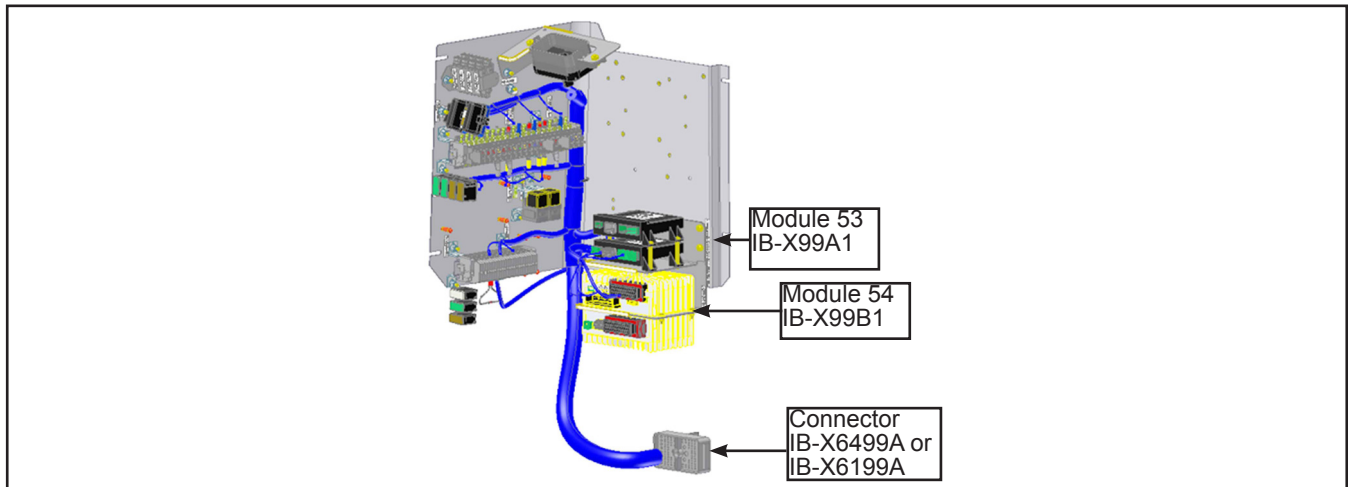

Figure 22 - IB Compartment
**Connector IB-X6499A. Pinning wires (see Figure 22).**
**Module 53 (see Figure 22).**
**Module 54** (see Figure 22).